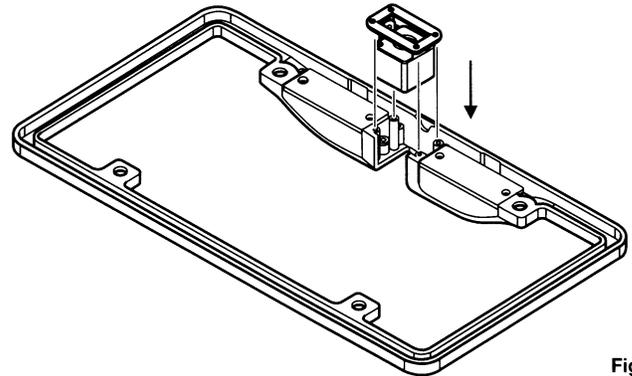

Fig. 3
5. While noting the top of the camera, align the camera and bracket with the holes at top of the license plate frame. (Fig.3)